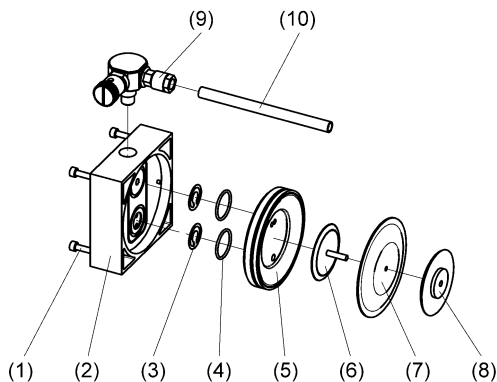
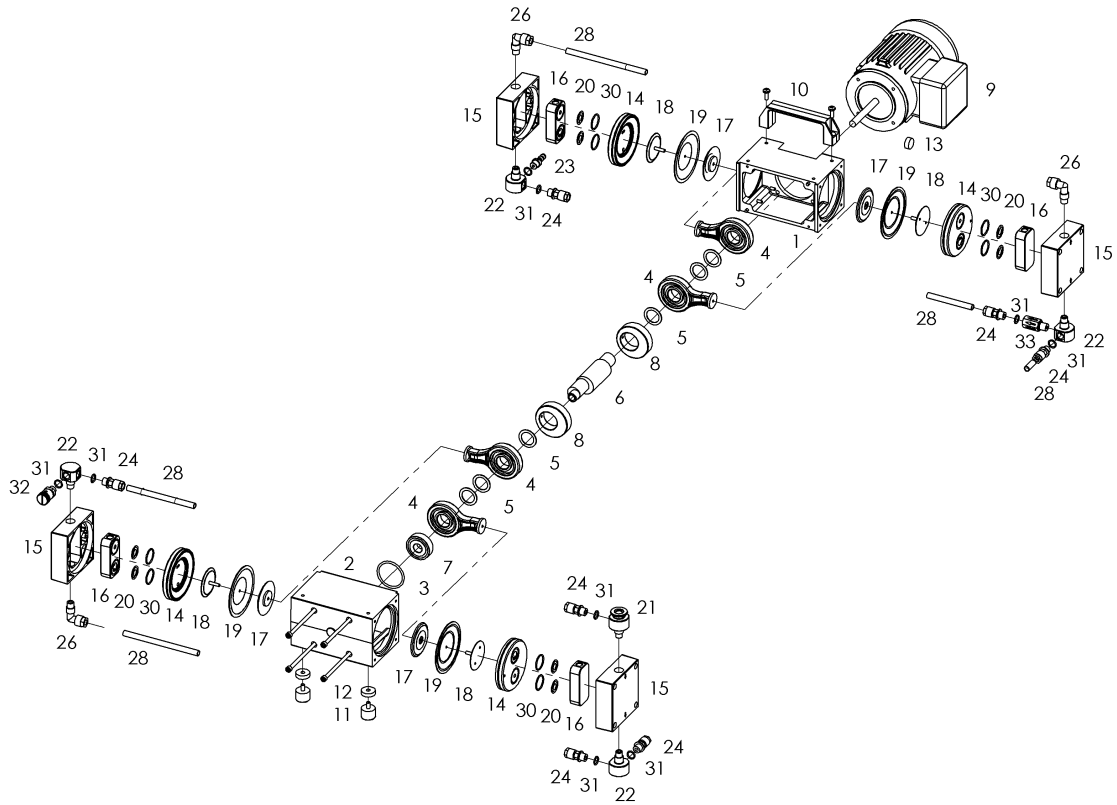

Fig. 4 Disassembly, assembly
Fig. 5 Exploded view (2052C-02)
6.2.2 Assembly (see Fig. 4)
- Use the size 3 pin-type face wrench to tighten the pressure disc (8), the diaphragm (7) and the strain washer (6) with the correct torque of 5 - 6 Nm.
- Bring the connecting rod (see fig. 5) and the diaphragm (7) into the central position.
- Replace the pump head (5).
- Insert the valves (3) and the o-rings (4).